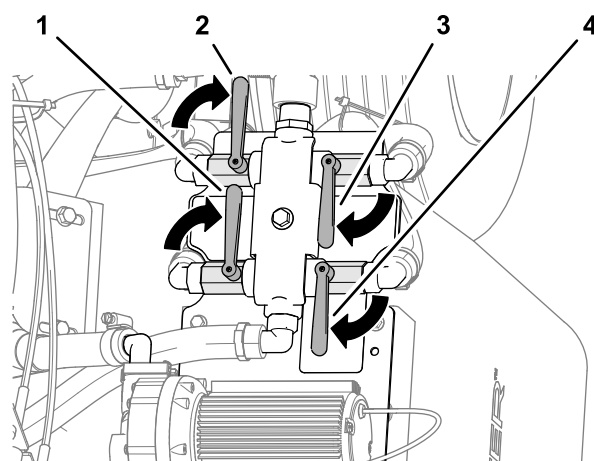

Figure 52
1. Rotate the left tank and right tank return and suction valves to the closed position (Figure 52).